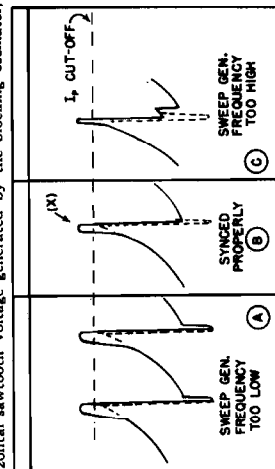

Fig. 7. A.F.C. Waveforms
Referring to Figure 7, the (B) curve shows a typical pulse so that about 50 per cent of the pulse width is riding on top of the (A) curve, while the remainder of the pulse after point (A) falls down into the trough, making the conducting portion have a width which is an average between the curves represented by (A) and (C). If each successive sync pulse falls in the same phase relation as shown in curve (B), the Horizontal Hold control which controls the amount of current flow through V12A is set so that this phase relation does not change. This would cause the sweep generator V12B to be running at the same frequency as that of the transmitted signal. Under this condition, if the sweep generator tends to run slower than the incoming sync signal, the conduction period will be made longer through tube V12A because the pulse will move forward in relation to the integrated sawtooth wave with a result as shown in Figure 7 (A). It will be noted that the conduction pulse is of greater duration (wider) than in curve (B). Therefore, tube V12A will conduct for a greater period of time, thus decreasing the negative potential across R50. This greater conduction period causes the sweep generator to speed up until it attains the condition in (B). Likewise, if the pulse width tends to fall down into the trough of the waveform, as shown in Figure 7 (C), with the resultant shortening (narrowing) of the conducting pulse. This causes the frequency of the sweep generator to be reduced until the condition in Figure 7 (B) is again restored.